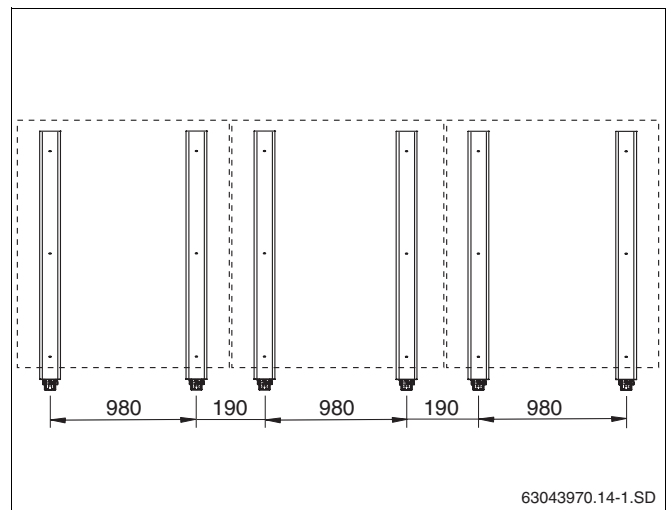

Fig. 25 Version for maximum loads, 3 portrait collectors
5.2.2 Version for maximum loads (accessory, Fig. 25)